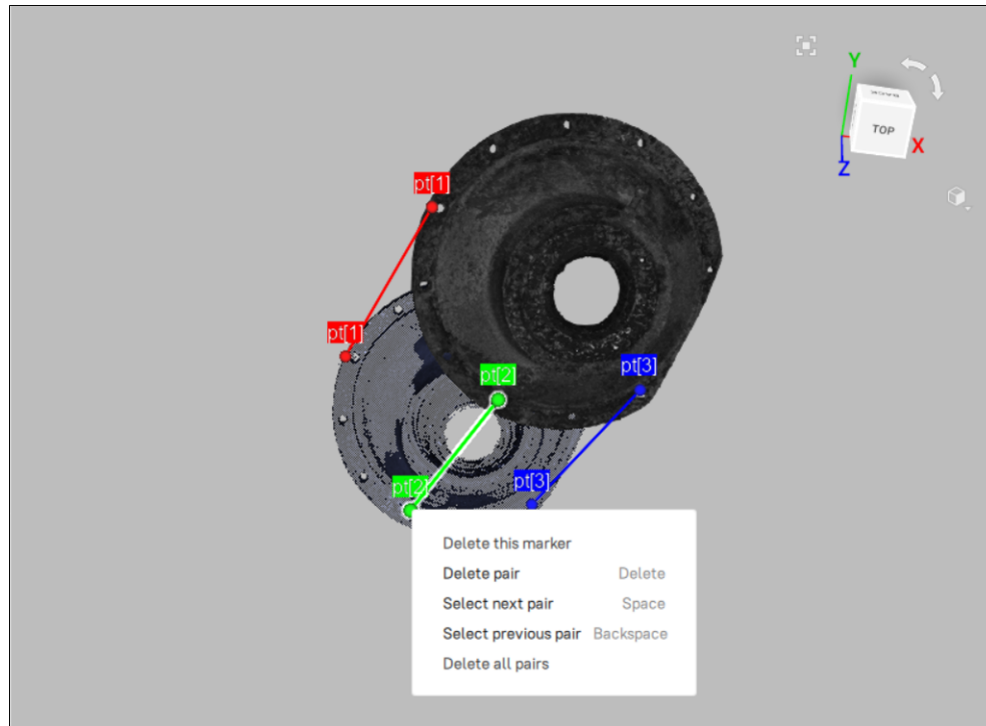
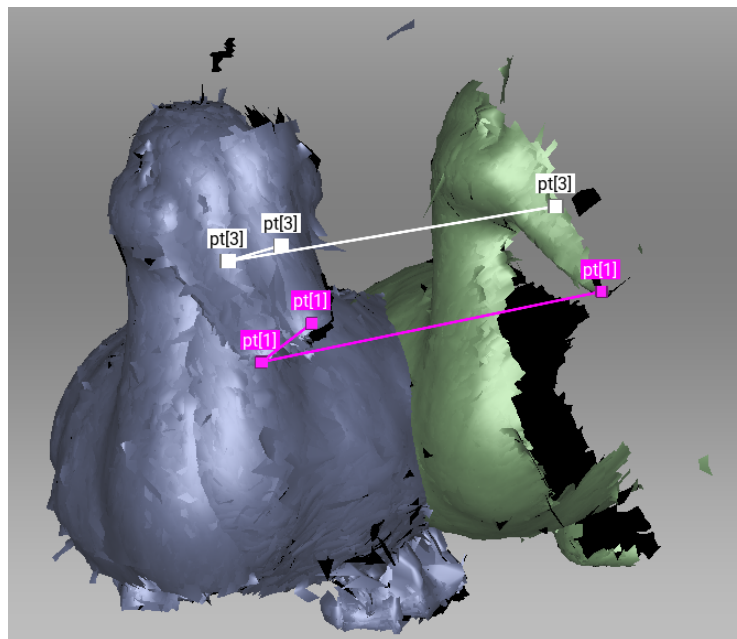

Figure 126: Creation of point pair.
Figure 131: Before alignment: two point-set added.
When specifying points in the *Best Fit* and *Nonrigid* types, the application automatically creates pairs. Having specified one pair, you can immediately create the next one. In the *Complex* type you must confirm set creation by hitting *Space* or by clicking *New set* from the left panel, because the set may comprise multiple points (see Figure 126 and Figure 131).
4. Specify several point pairs (Figure 126), keeping in mind the recommendations from Specifying Point Sets \(Markers\) and Editing their Positions.
3. Specify one or more point sets on the scan surface (see Figure 131), keeping in mind the recommendations in Specifying Point Sets \(Markers\) and Editing their Positions.